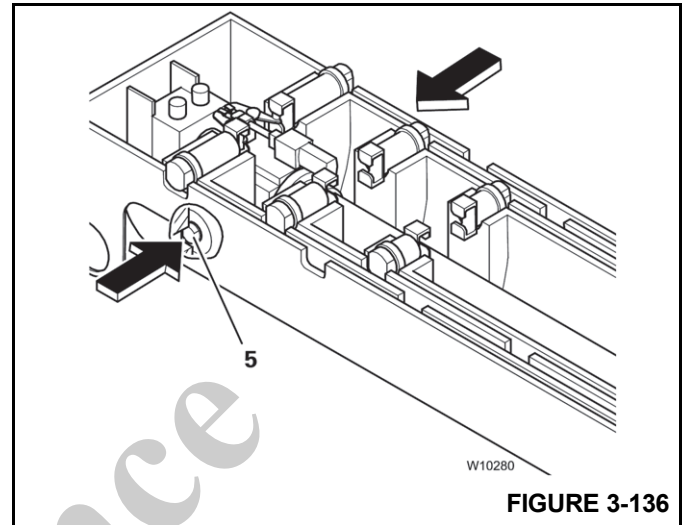

FIGURE 3-136
1. Unlocking the telescoping cylinder (Figure 3-136);
- a. The cylinder locking pins (5) retract, unlocking the telescope cylinder.